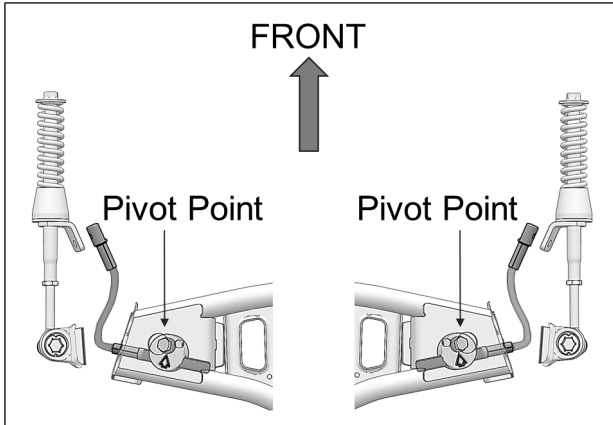

Fig. 25
14. Make sure aluminum disk pivot point is installed in front of steering limiter cable. See Fig. 25